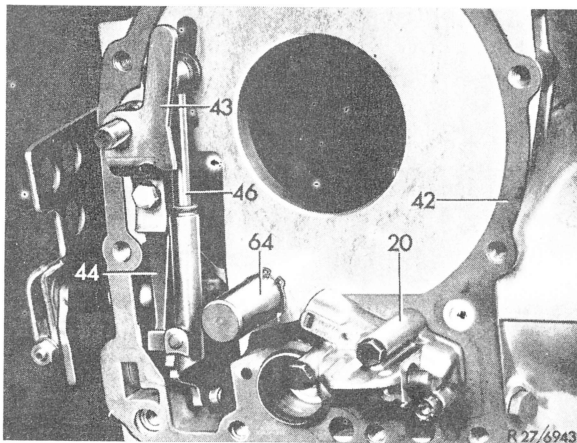

Fig. 36
**58** Tighten bracket (43) with hex. bolt to 10 Nm (1.0 kpm) and mount bearing bolt (64) for parking lock pawl (Fig. 36).
**59** Mount modulating pressure valve housing (20) with a new gasket (42) for rear transmission case. Tighten fastening screws to 7 Nm (0.7 kpm) (Fig. 36).